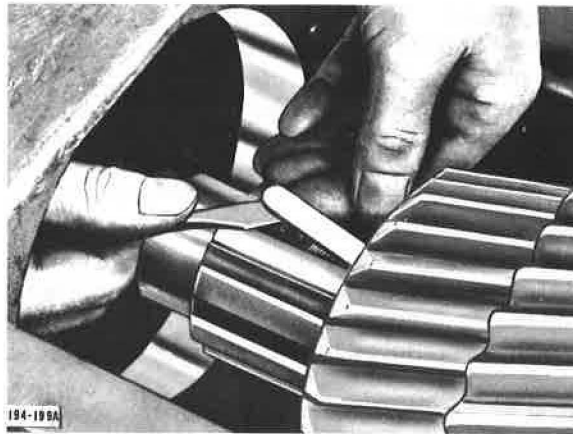

Figure 5-15. Removing Fourth or Fifth-speed Gear Sleeve Key
8. Remove mainshaft spigot bearing inner race retaining snap ring. With fourth/fifth-speed sliding clutch against bearing inner race, tap on clutch with nylon mallet and remove both parts from mainshaft. Pry key out of mainshaft spline. See Figure 5-15. With a small tool, rotate fourth/fifth-speed gear sleeve one spline and slide sleeve and fourth/fifth-speed gear off of mainshaft.